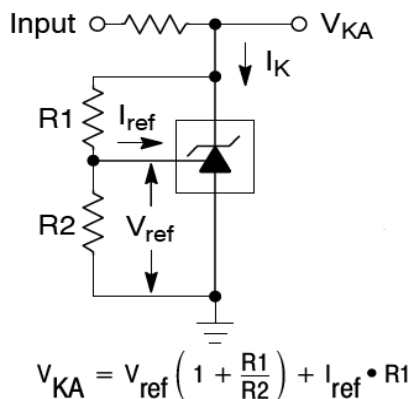

Figure 2: $V_{KA} > V_{REF}$
* When the device operating with two external resistors, $R1$ and $R2$, (refer to Figure 2) the total dynamic impedance of the circuit is given by: